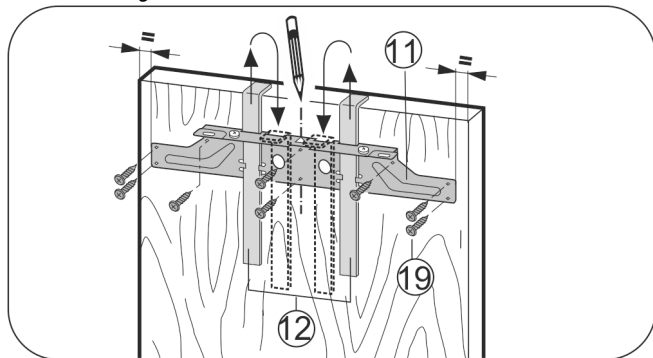

Fig. 21
- Hang the crosspiece Fig. 21 (11) on the inside of the unit door using the fitting aids Fig. 21 (12). With a 600 mm (1.97 ft) wide recess:
- Align the crosspiece Fig. 21 (11) to the middle of the door.
- Secure the crosspiece Fig. 21 (11) with at least 6 screws Fig. 21 (19).
- Secure the crosspiece Fig. 21 (11) with 4 screws Fig. 21 (19) at the edge.
- Lift up fitting aids Fig. 21 (12), turn round and insert into the adjacent openings.